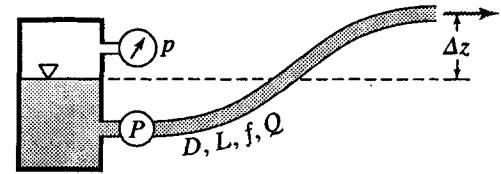

Figure P15.49
- 15.49 Water at 170°F is pumped through a 15-in-diameter pipe ( $f = 0.028$ ) 2000 ft long from a large pressurized tank ( $p = 30$  psi) whose water surface is at elevation 200 ft to a point of discharge in the atmosphere at elevation 242 ft (Fig. P15.49). (a) If the flow rate is 5800 gpm, find the head that a pump, placed in the pipeline and rotating at 1200 rpm, must develop and determine the specific speed of the pump. Assume the pressure in the tank remains constant and neglect minor losses. (b) Approximately what will be the diameter of the impeller? (c) At what elevation must the pump be set to safeguard against cavitation if the head loss from the tank to the pump is 1.6 ft?